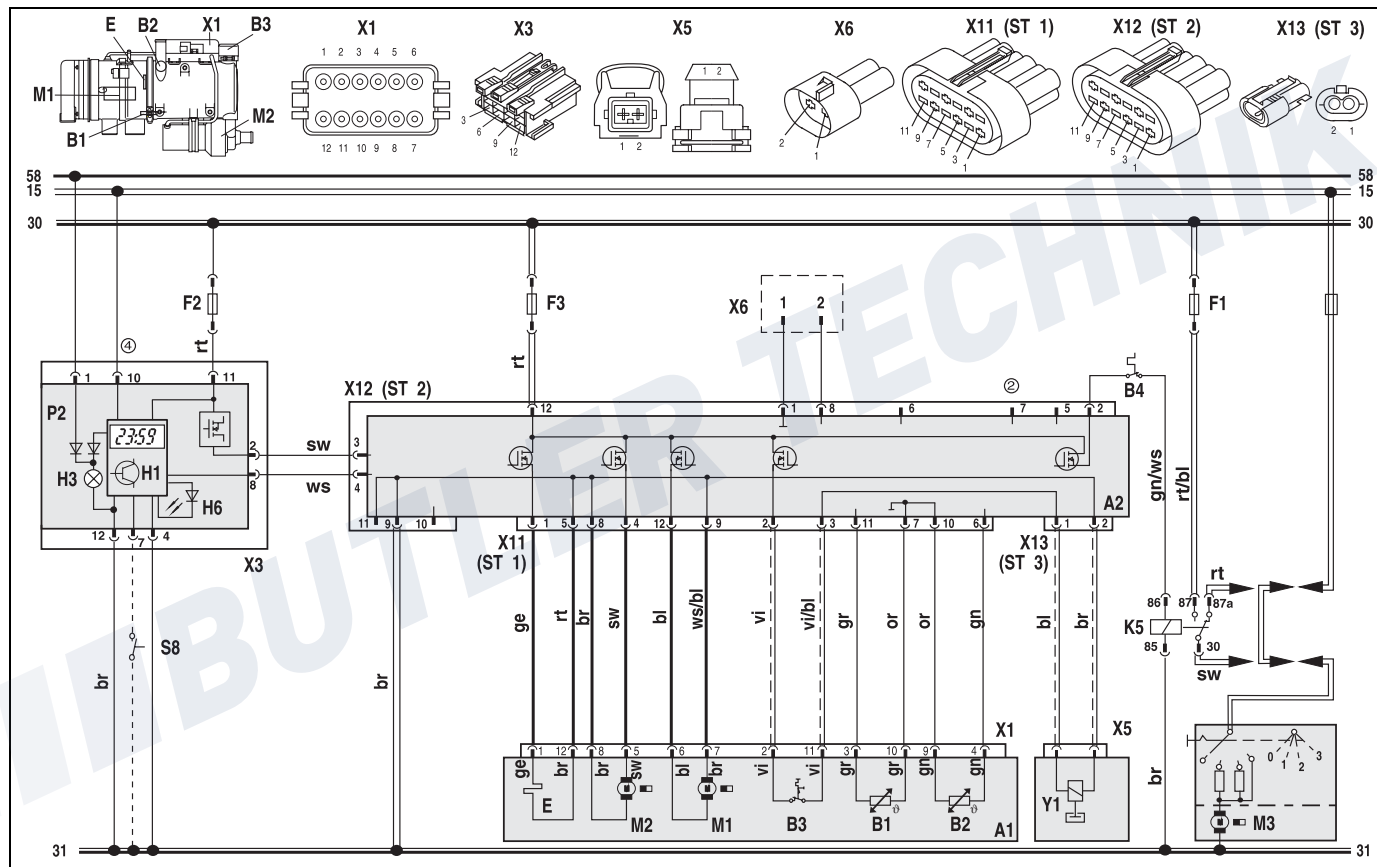

Fig. 15: System circuit for Thermo 90S, 12 and 24 V, with standard timer, see pages 51 and 52 for legend
- Timer, see circuit diagrams in Figures 15, 16, 19 or 20.
The vehicle's own heater fan is controlled using a relay, see circuit diagram Figs. 15, 16, 17, 18, 19, 20, 21, 22 or using a relay with a cabin thermostat.